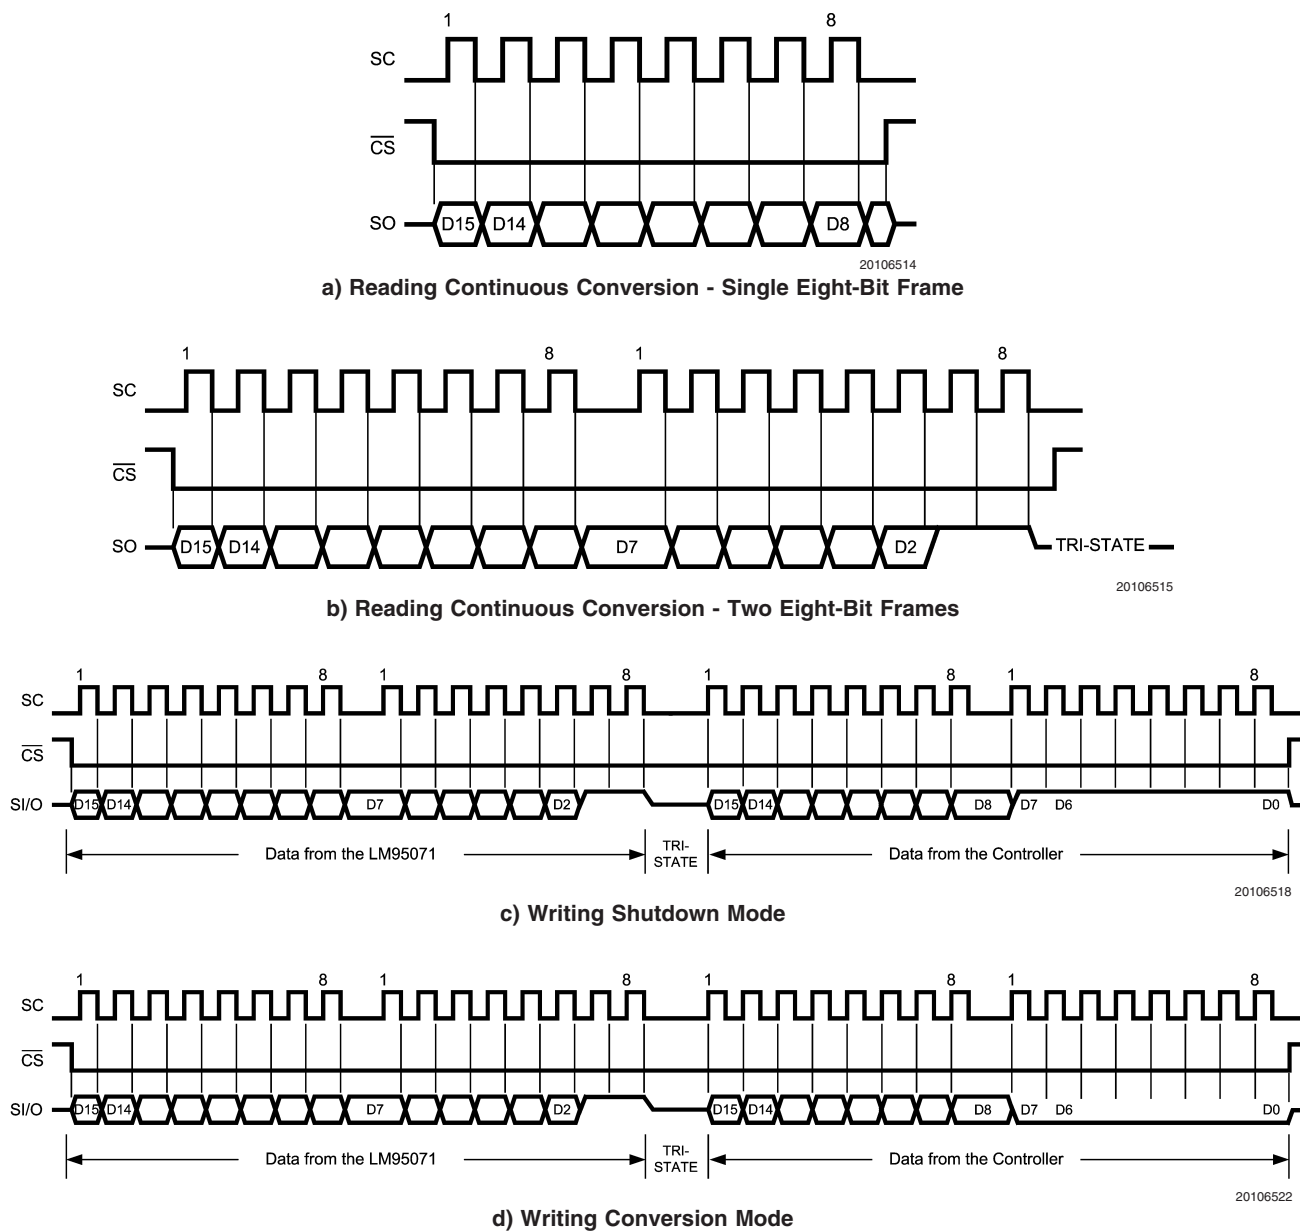

FIGURE 7. Timing Diagrams
The LM95071 operates as a slave and is compatible with SPI or MICROWIRE bus specifications. Data is clocked out on the falling edge of the serial clock (SC), while data is clocked in on the rising edge of SC. A complete communication is framed by falling and rising chip select (\overline{CS}) signal. The \overline{CS} signal should be held high for at least one clock cycle (160 ns minimum) between communications. The transmit-only communication (register read) consists of 16 clock cycles. A complete transmit/receive communication will consist of 32 serial clocks (see Figure 7). The first 16 clocks comprise the transmit phase of communication, while the second 16 clocks are the receive phase.